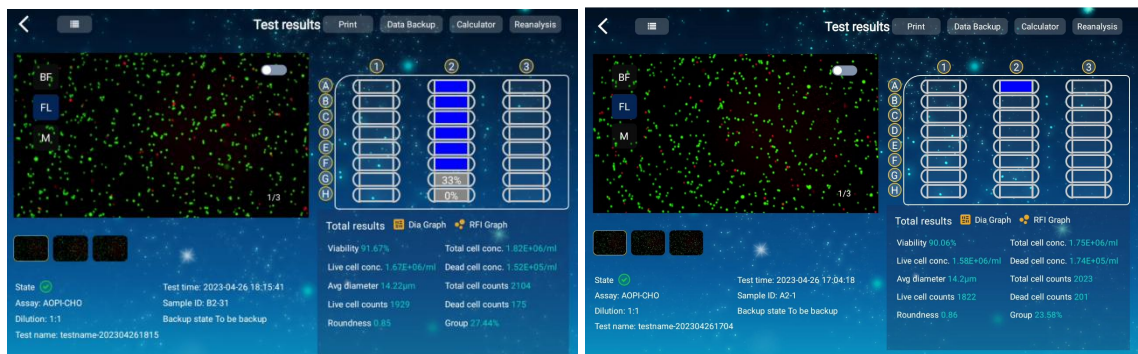

Fig. 2.20 Test results user interface
2.3.8 After the completion of the measurement, the Test results user interface on the touchscreen of the Countstar® Mira HT will automatically appear to display the current test results (**Fig. 2.20**).